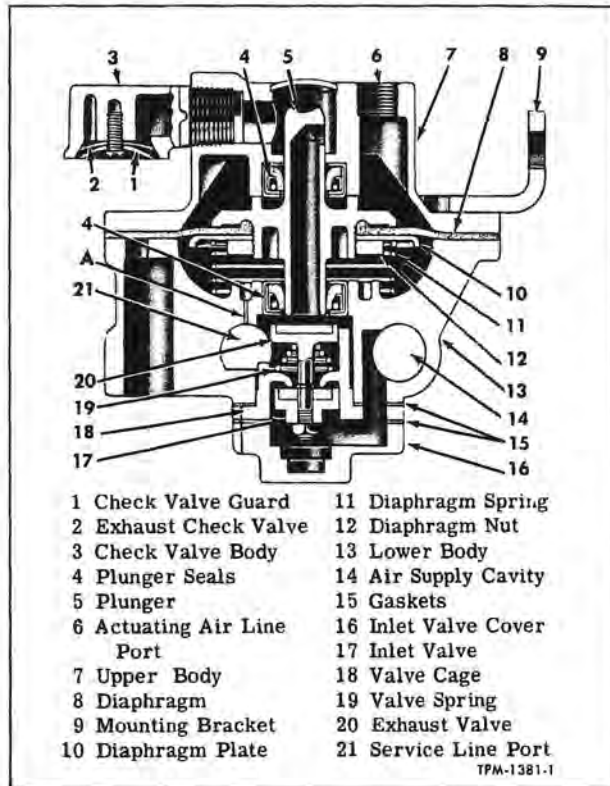

Figure 20—Rear Brake Relay Valve (Midland-Ross)
Key numbers in text refer to figure 20.
**RELAY VALVE OPERATION (Fig. 20)**
The by-pass port (passage A, fig. 20) permits air being delivered to rear brake chambers to enter cavity below diaphragm. When combined
**RELAY VALVE OVERHAUL****Disassembly (Fig. 20)**
1. Unscrew check valve body (3) from exhaust port in upper body (7). Remove screw attaching exhaust check valve (2) and guard (1) to valve body. Remove valve and guard.
2. Mark mounting bracket (9), upper body (7), and lower body (13) in some manner to identify their relative positions for reassembly. Remove six bolts attaching upper body to lower body; four of these bolts also attach the mounting bracket. Remove bracket and upper body from lower body.
3. Remove diaphragm and plunger assembly (5 and 8) and diaphragm spring (11) from lower body.
4. Remove nuts from four studs securing inlet valve cover (16) to lower body and remove cover. Remove valve cage (18) and inlet and exhaust valve assembly (17 and 20), and gaskets (15) from lower body.
5. Hold exhaust valve (20) with pliers and remove nut securing inlet valve (17) on exhaust valve stem. Remove inlet valve from exhaust valve stem, then remove exhaust valve from valve cage.
6. To disassemble diaphragm and plunger, hold plunger (5) and remove diaphragm nut (12), diaphragm plate (10), and diaphragm from plunger. Hold plunger in such a manner that surfaces which contact oil seals will not be damaged.
7. Remove plunger seals (4) from upper and lower bodies.
**Cleaning (Fig. 20)**
**Assembly (Fig. 20)**
1. Install new plunger seals (4) in upper and lower bodies (7 and 13), with seal lips in direction shown in figure 20.
2. Install diaphragm (8) on lower end of plunger (5). Be sure bead around hole in diaphragm (8) is seated in groove in plunger (5). Place diaphragm plate (10) on plunger with cupped side away from diaphragm. Coat threads on plunger with shellac, and install diaphragm nut (12). Hold plunger, using